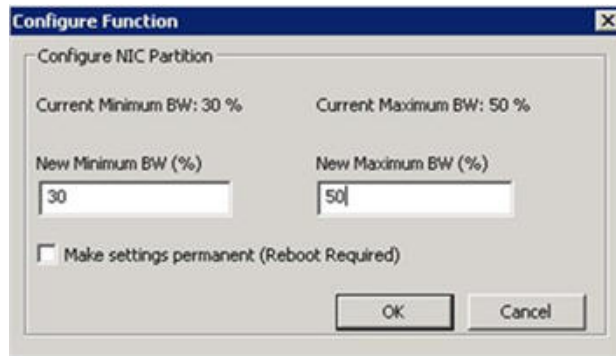

Figure 2-44. Entering New Bandwidth Values
3. Use the Configure Function dialog box to set the minimum and maximum bandwidth percentages, **New Minimum BW (%)** and **New Maximum BW (%)** (Figure 2-44).